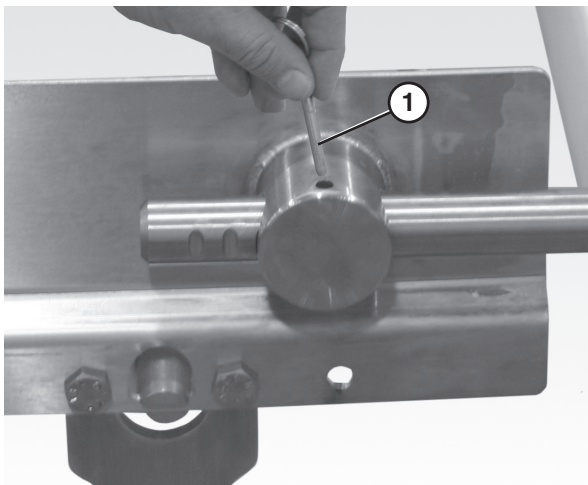

Figure 33
8. Insert the pull pins (**Figure 33, item 1**) on the tension end of the conveyor.